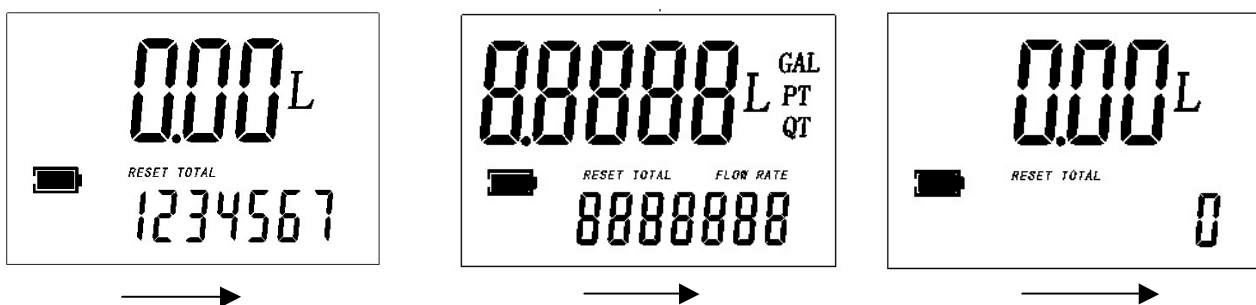

Fig. 5
3.2 RESET THE RESETTABLE TOTALIZER (SEE FIG. 5)